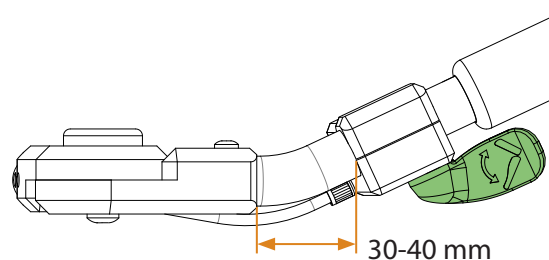
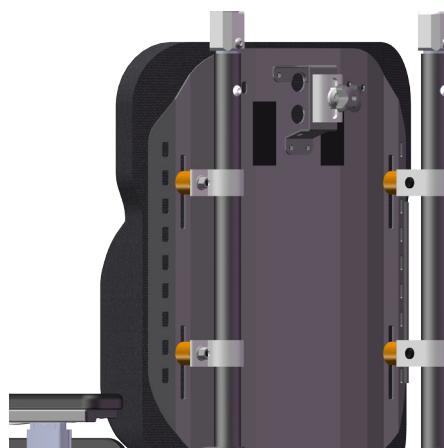

Figure 21. Control positioning
Figure 28. Back spacers
4. Screw the new cable control in place on the push bar (Figure 21). It should be placed 30-40mm from the joint and angled outward 2-3°.
When a shorter seat depth is needed HD Motion can be equipped with back spacers, see Figure 28. Back spacers 20 mm in length can be used without further modification to the wheelchair. Longer back spacers require modified armrests such that the armrest pad can be moved further forward. Modified armrest can be ordered from HD Rehab. When backrest spacers are used it is possible to move the backrest brackets down (Figure 21). How much they can be moved depends on the length of the spacers.